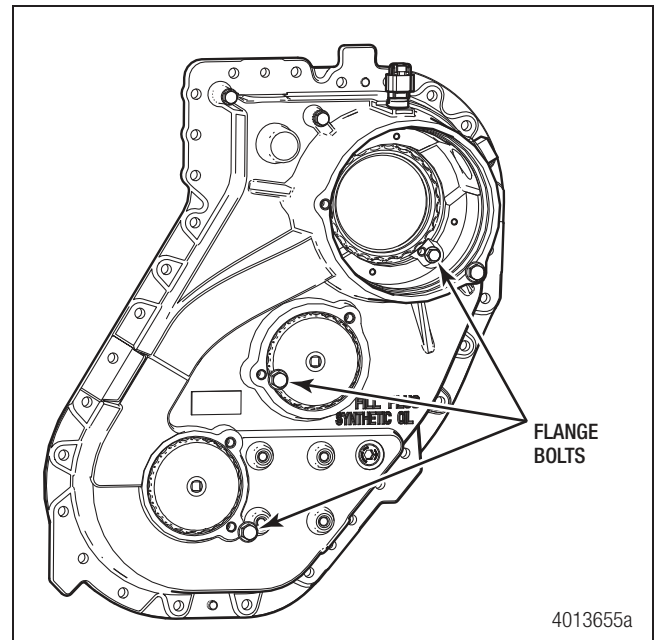

Figure 6.16
2. Remove the flange bolts from the output and idler positions, and at the input position if not already removed. Figure 6.16.